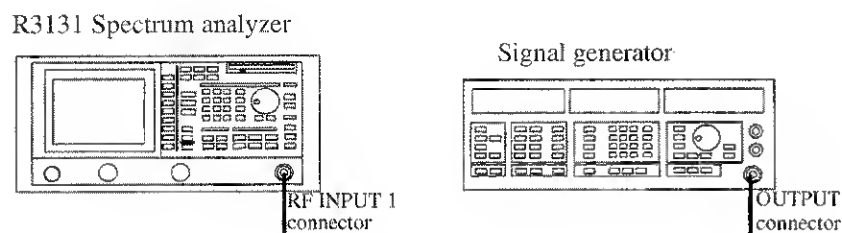

Figure 2-35 Setup for Verifying the Dynamic Range
1. Connect the signal generator as shown in Figure 2-35.